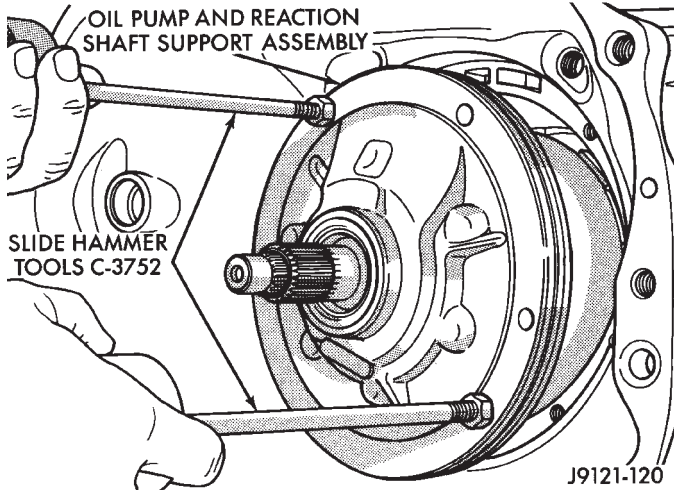

Fig. 10 Removing Oil Pump/Reaction Shaft Support
(14) Loosen front band adjusting screw locknut 4-5 turns. Then tighten band adjusting screw until band is tight around front clutch retainer. This prevents front/rear clutches from coming out with pump and possibly damaging clutch or pump components.
- (15) Remove oil pump bolts.
- (16) Thread bolts in Slide Hammer Tools C-3752 into threaded holes in pump body flange (Fig. 10).
- (17) Bump slide hammer weights outward to remove pump and reaction shaft support assembly from case (Fig. 10).